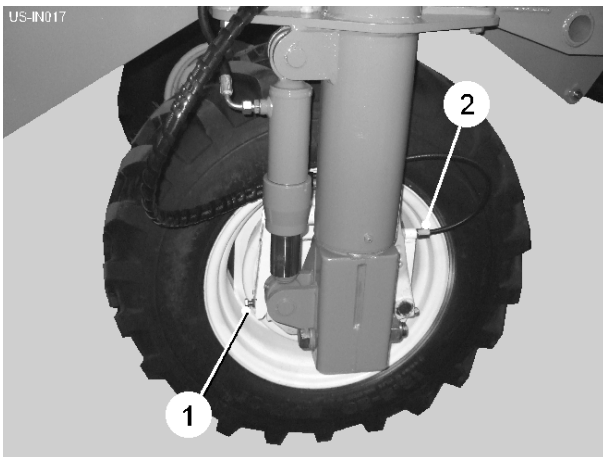
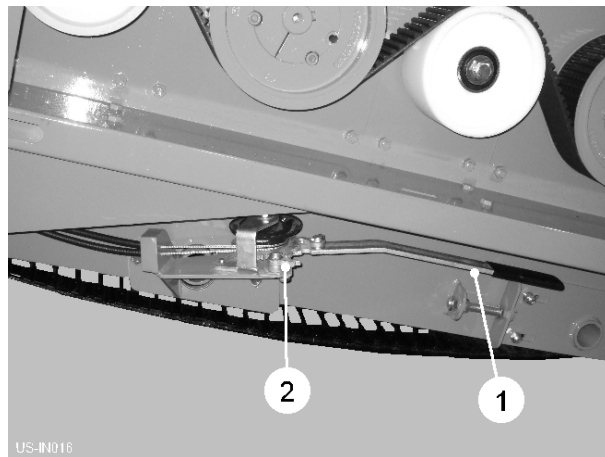

Fig 15
Fig 16
Connect the hydraulic brake hose to the tractor 'brake service outlet'. The machine brakes will operate when the tractor brakes are applied. Brake shoe wear can be taken up by adjusting the setscrews (item 1, fig 15).
To apply the handbrake, pull the lever (item 1, fig 16) in and out against the ratchet until the brake cables are fully tensioned. To remove the handbrake, pull the lever fully out to release the ratchet mechanism catch (item, 2, fig 16). Finally, push the lever back under the machine for transport. Handbrake cable length is set on the cable adjusters (item 2, fig 15).